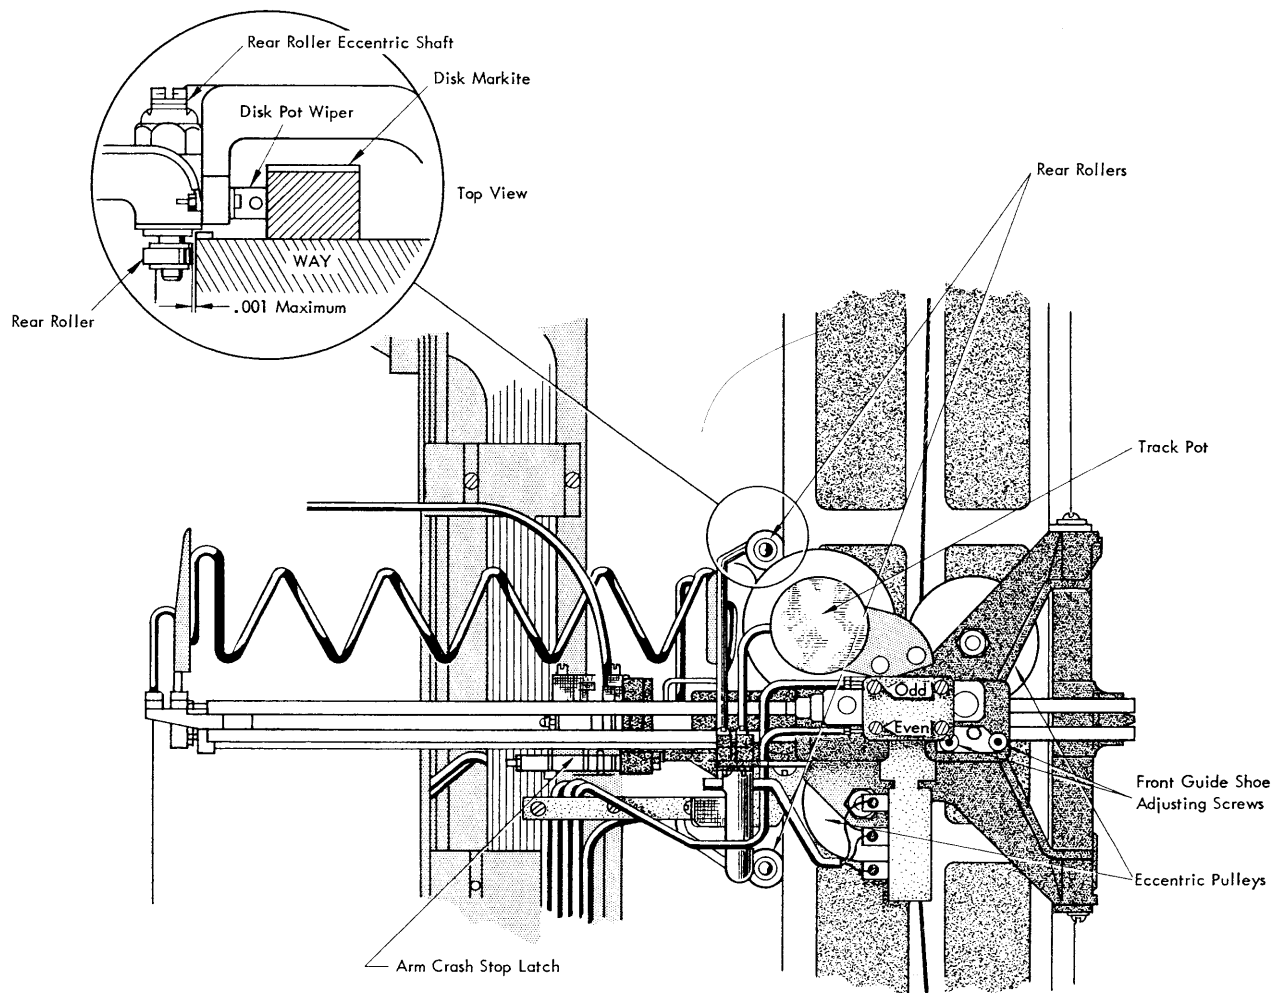

Figure 63. Access Arm and Carriage Assembly (side view)
9. Loosen track potentiometer anchor and pivot screws and rotate the assembly to disengage gear (See Figure 63).
15. It may be necessary to loosen both top and bottom eccentrics on pulleys to allow clearance to arm (See Figure 63).
16. Rotate arm crash stop latch 90° (See Figure 63).
### Carriage (Figures 63 and 64)